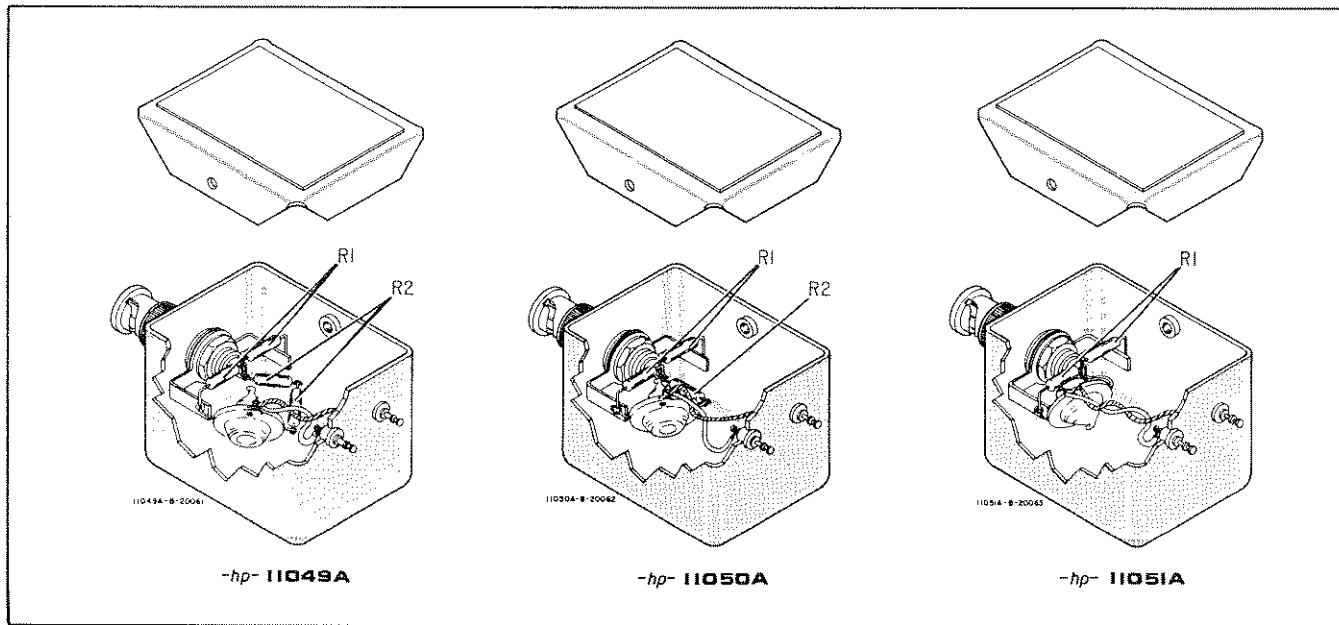

Figure 9. Proper Orientation of Components
35. The spatial orientation of the components within the thermoelement is critical. Improper placing of the components may cause serious degradation of the higher frequency response. Figure 9 shows the proper component placement for each of the components in each thermal converter.
- b. Make sure that component mounting matches that shown in Figure 9.